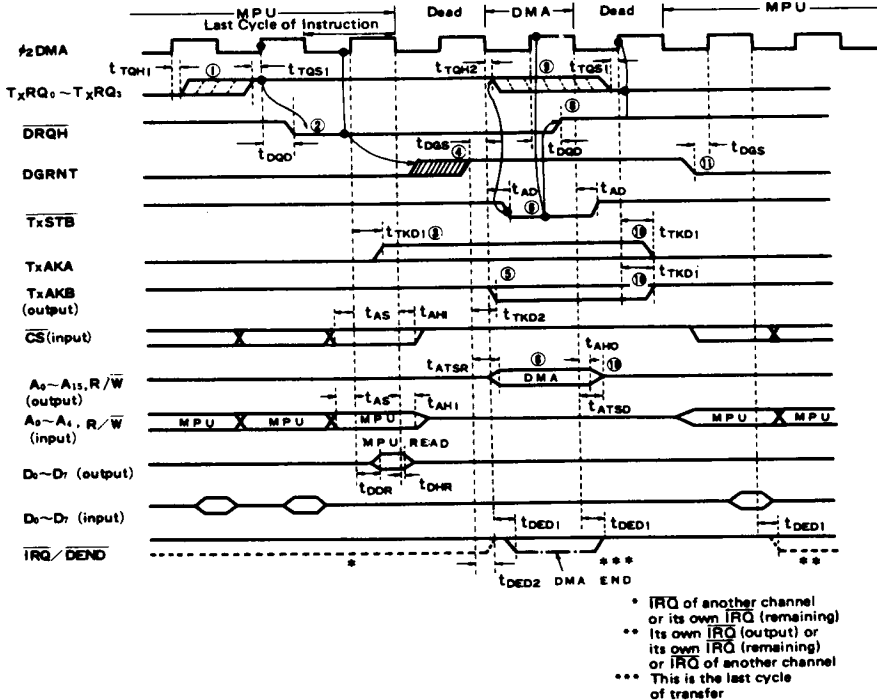

Figure 12 HALT Cycle Steal Mode
Timing chart is shown in Fig. 12 and flow chart is shown in Fig. 13. Procedure of transfer operation is the following. (No. ① ~ ⑦ in Fig. 12 correspond to the following items.)
- ① TxRQ0~TxRQ3 input is checked at the rising edge of  $\phi_2$ DMA. When it is at "High" level, it gets into the following operation.
- ② DRQH="Low" is output and MPU is requested to stop its operation.
- ③ TxAKA is driven (Level output).
- ④ MPU stops its operation and DMAC waits until DGRNT goes to "High" level.
- ⑤ When DGRNT goes to "High" level, DMAC drives TxAKB, A0~A15 and R/W lines.
- ⑥ TxSTB is given to perform DMA transfer.
- ⑦ Address is incremented or decremented by one and number of transfer words is decremented by one.
- ⑧ When DRQH rises to "High" level, MPU gets into Instruction Cycle again.
- ⑨ TxRQ falls to "Low" level.
- ⑩ A0~A15 and R/W get into high impedance state again.
[Note] TxRQ0~TxRQ3 input in HALT cycle steal is, in principle as shown in Fig. 12, set to "High" every 1-byte transfer on account of I/O request. When TxSTB of the DMAC is driven, it is reset to "Low". Take care not to be against this principle, or the following states may happen.